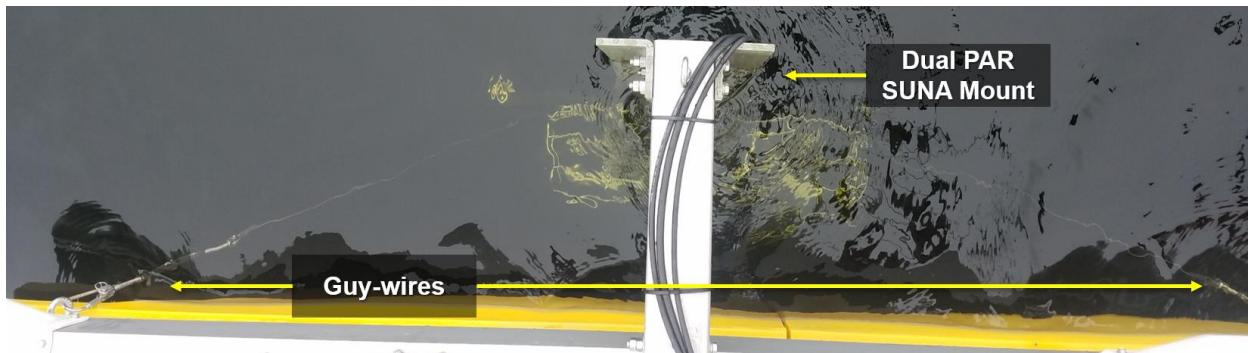

Figure 21. Looking Down on the Dual PAR SUNA Mount and Guy-wires
- a. Ensure the guy-wire jam nuts are tight after resetting the dual PAR SUNA mount in the water (see Figure 21). The jam nut enables the turnbuckle to be secure post-tightening. Tighten or replace loose nuts, bolts, washers, as applicable.